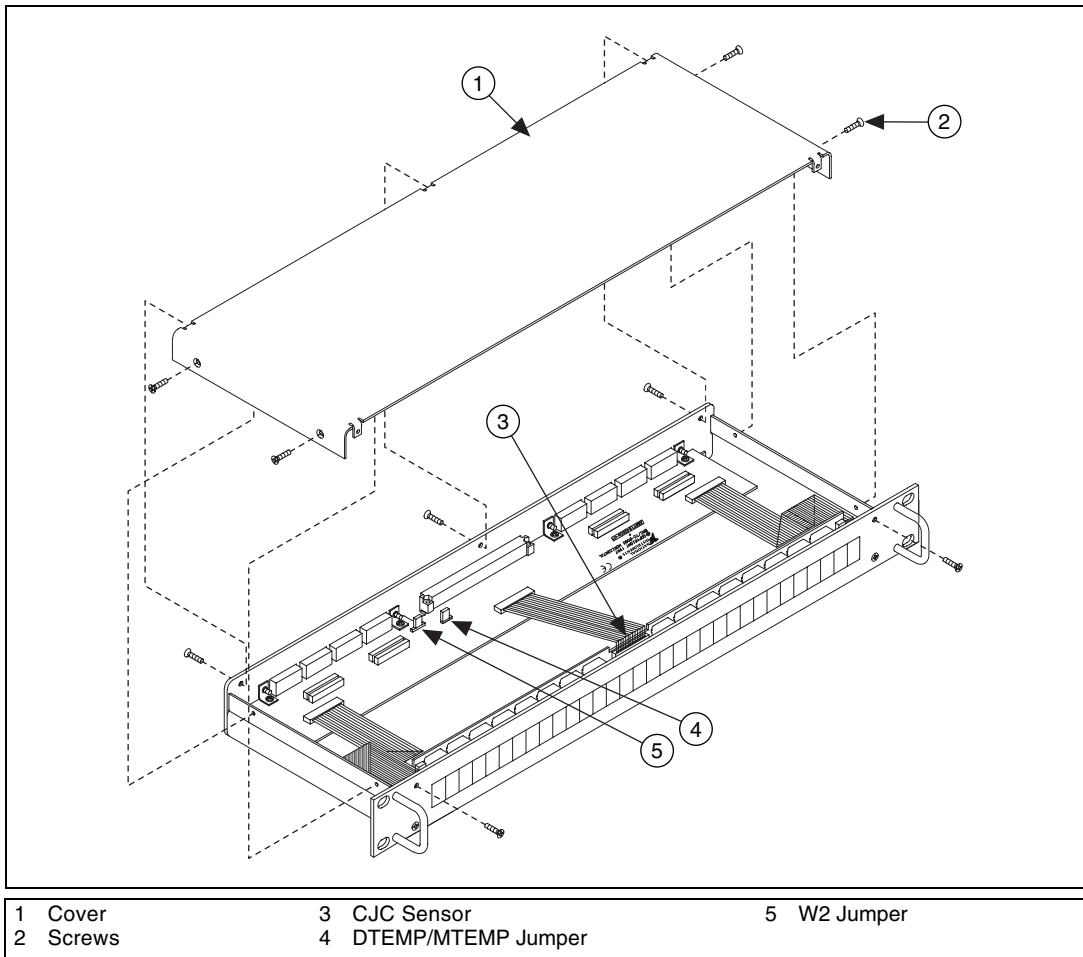

Figure 2. TC-2095 Terminal Block Parts Locator Diagram
- a. Refer to Figure 2 to locate jumper W1 and verify that MTEMP is jumpered on the terminal block.